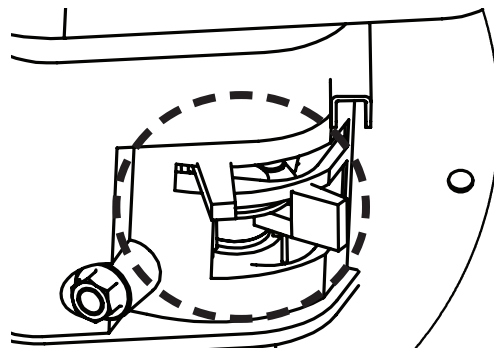

Figure 3
- If the engine is cold or the ambient temperature is low, close the choke lever fully. **SEE FIGURE 3.**
11. After starting the engine, slowly move the choke lever to the "Closed Choke" position as the engine warms up. Move throttle to desired speed. **SEE FIGURE 3.**